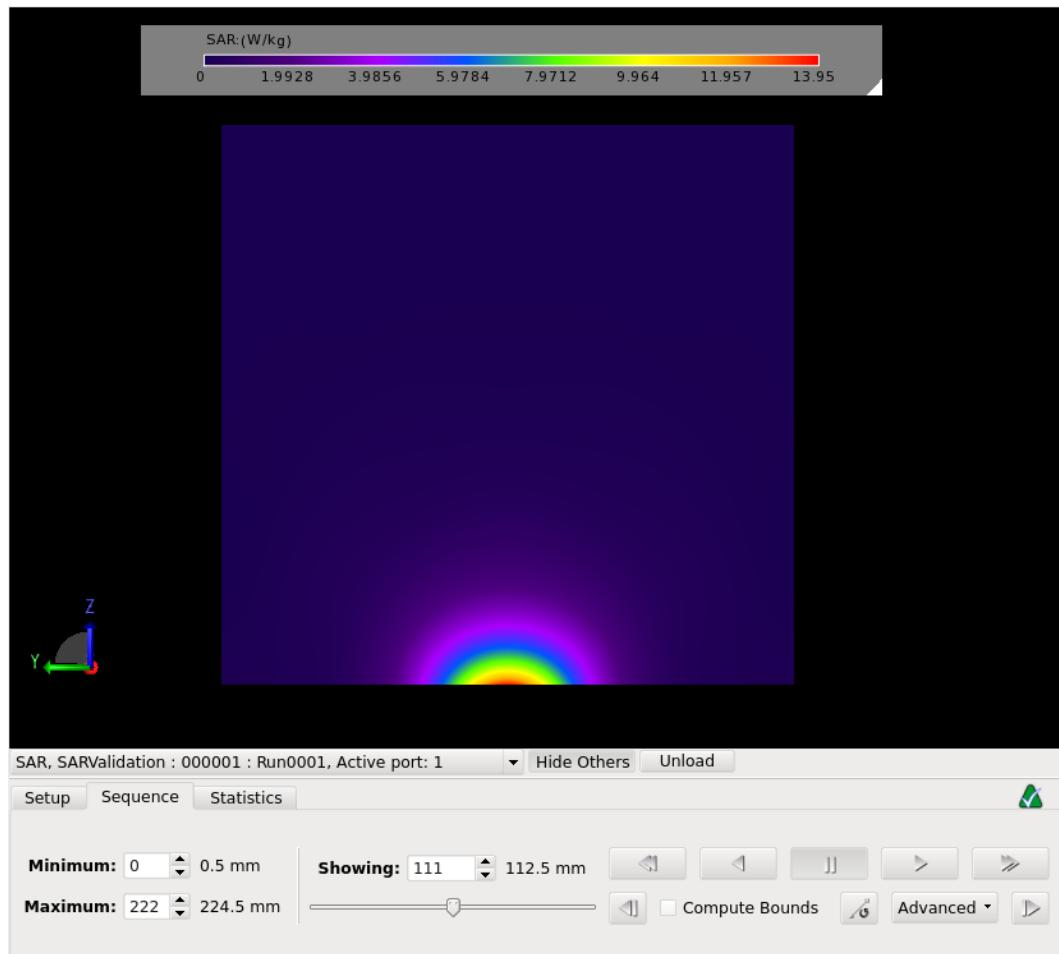

Figure 9.23: Setting the view of the SAR sensor data
- Under the  SEQUENCE tab, set the SHOWING editor to a value of 111 to plot the SAR data slice at  $X = 112.5$  mm. The SAR image shown in Figure 9.23 should appear.